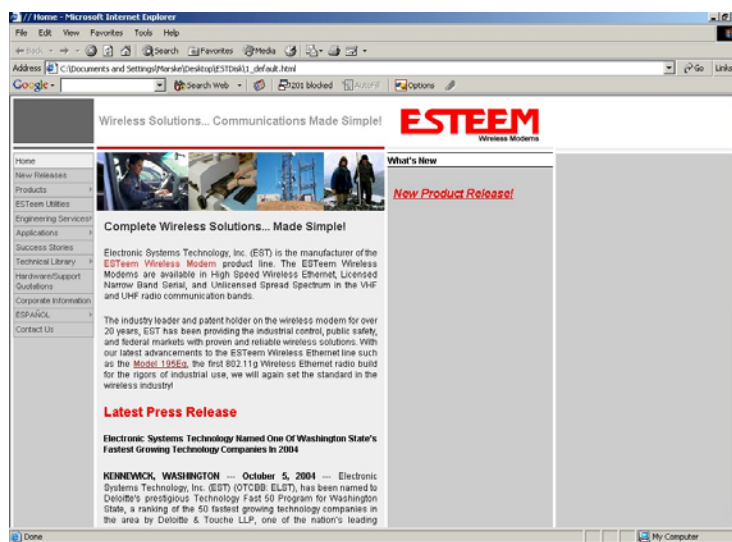

Figure 5: ESTeem Resource Main Page
Note: The ESTeem Resource Disk is stand-alone copy of the ESTeem Web site (Figure 5). Navigation of the Resource Disk is as simple as using your web browser. All technical documentation, User's Manuals and the ESTeem Utility Program is available on the disk.
The ESTeem Utility program version 2.7.0 and above can configure the Terminal Emulation to VT100 for easy navigation of the configuration menu. The ESTeem Utility Program is located on the ESTeem Resource Disk (AA109) which is stand-alone copy of the ESTeem Web site (Figure 5). Navigation of the Resource Disk is as simple as using your web browser. All technical documentation, User's Manuals and the ESTeem Utility Program is available on the disk. To install the ESTeem Utility Program use the following instructions:
4. Plug the Model AA175 power supply into a wall socket and connect an Ethernet patch cable from the Model 195Ep Ethernet port to the J1 (Data&PWR) port on the power supply (Figure 5). The Power over Ethernet (POE) LED on the front of the ESTeem should be illuminated.